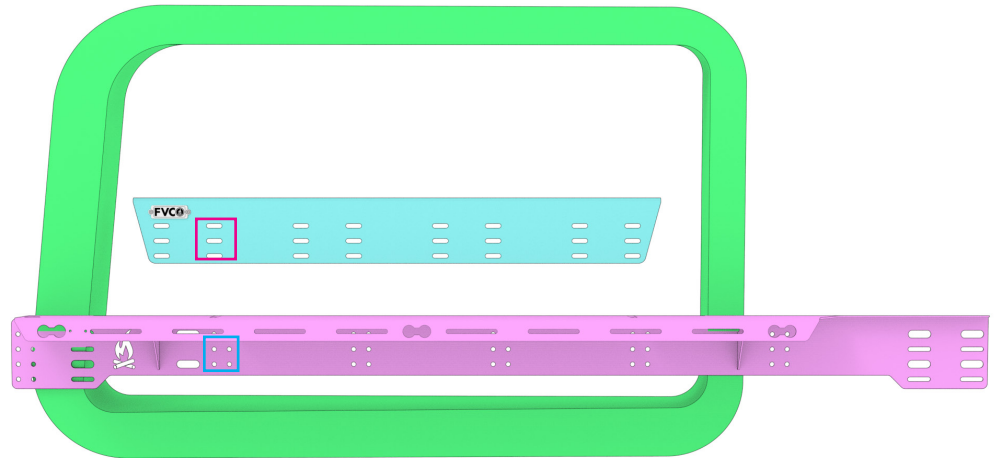

FIG 2
1.2 Align Flare Bed Fry Bracket to Bed Rail: Align the extension bracket against the bed rail weldment in the orientation shown and note the available mounting holes (FIG 2+3).